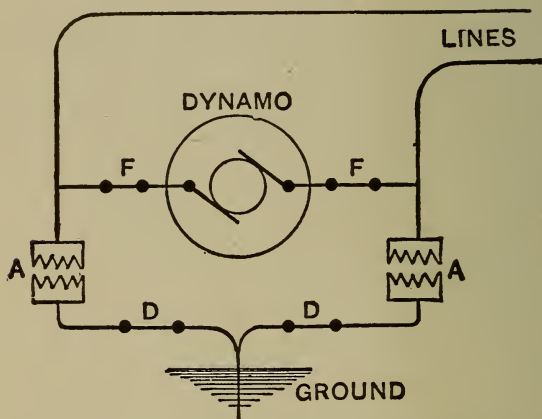

Fig. 32. The Saw-tooth arrester applied to a Dynamo. F, F are the regular fuses. D, D are the fuses for Arrester Circuit.
*Answer.* Place small fuses (as in Fig. 32) in the ground wires of the arresters before they join to the common† ground wire. Then any working current following the lightning discharge will blow these fuses instantly,